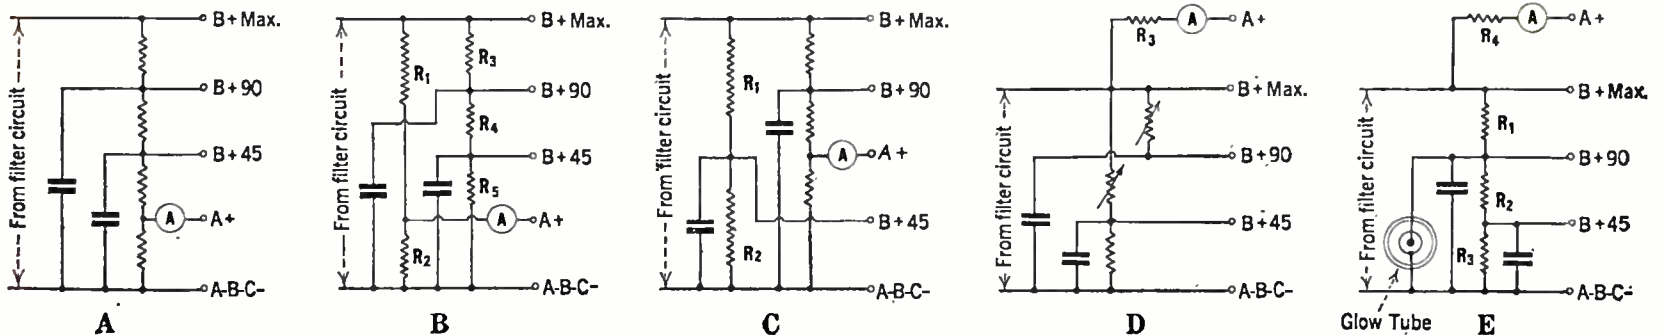
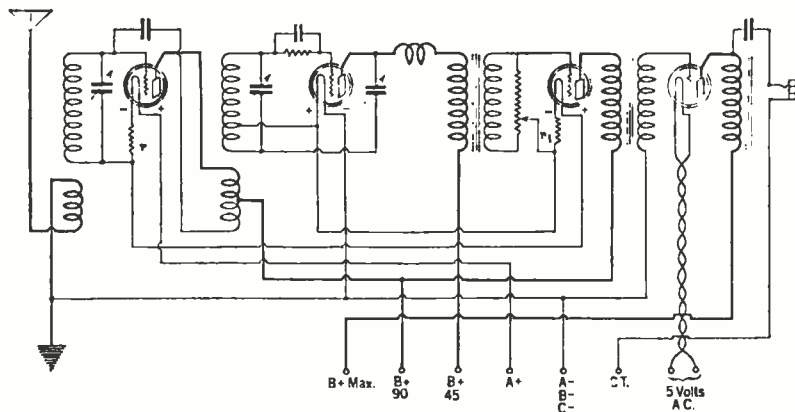
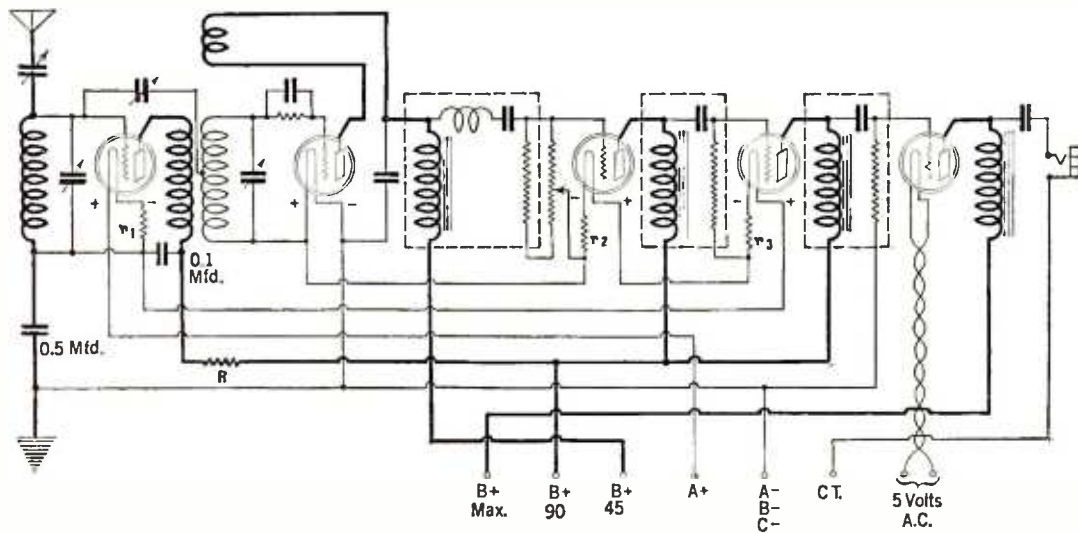

FIG. 1
FIG. 3
FIG. 5
using a five-tube receiver consisting of a stage of r.f. amplification, regenerative detector, and a three-stage double-impedance amplifier. A regenerative receiver using this type of amplification is frequently difficult to get working properly with a power-supply unit because of a marked tendency to "motor-boat," and it was felt that, if this receiver could be made to function satisfactorily with an A,B,C power unit, any other receiver would surely work satisfactorily. It was found that the receiver "motor boated" badly using the output circuit shown in Fig. 1, A, although when a two-stage transformer-coupled amplifier was substituted for the double-impedance affair, results were excellent. To prevent "motor boating" with the impedance amplifier, the output potentiometer circuits shown at B, C, D, or E, Fig. 1, had to be used.
brought down to two a.c. filament terminals, and it is absolutely necessary that the output circuit shown in the plate circuit of the 171 be used and that one side of the loud speaker jack connect to the center tap, CT, as indicated. The negative A should be grounded. No trouble should be experienced with this receiver due to "motor boating" and, for this reason, any output arrangement indicated in Fig. 1 may be used. However, in the event that the "Lab" receiver
In Fig. 3 we have a diagram of the new "Universal" receiver, described in RADIO BROADCAST for December, 1926, wired for a.c. operation. The order of filaments is the same as in the case of the "Lab" receiver, and the two resistances, r and r_1 , should each also have a value of 18 ohms. This receiver will operate satisfactorily using any of the output arrangements indicated in Fig. 1.
has been constructed using a different type of audio amplifier, such as an impedance- or resistance-coupled circuit, it will very likely be necessary to use a special output arrangement in the power unit to prevent "motor boating." Separating the detector plate voltage supply from the rest of the A and B circuits, as shown in B, Fig. 1, will generally eliminate the trouble, but if "motor boating" is very persistent it will be necessary to use the glow tube arrangement shown at "E" in Fig. 1.
a.c. neodyne receiver. The resistances r_1 , r_2 , and r_3 should each have a value of 18 ohms, which will give the two r. f. tubes and the first a. f. tube a grid bias of 4.5 volts. The receiver will function satisfactorily with any of the output arrangements indicated in Fig. 1.
Fig. 5 is the circuit diagram of the impedance-coupled Browning-Drake receiver which was described in the September, 1926, RADIO BROADCAST, now connected so as to be satisfactory for use in conjunction with A, B, C power units. The order of the filaments from the A plus terminal is r.f. tube first, second a.f. tube secondly, first a.f. tube third, and detector finally. The resistance r_1 should have a value of 12 ohms; r_2 should have a value of 4 ohms, and r_3 , a value of 12 ohms. The negative A should be grounded and should also connect through a 0.5-mfd. fixed bypass condenser to the lower side of the coil in the antenna circuit. It is unlikely that this receiver will give satisfactory results with the output circuit arrangements of the power unit shown at "A", "B," or "C," Fig. 1. For this set it will be preferable to use the circuit arrangement indicated at "D" or "E."